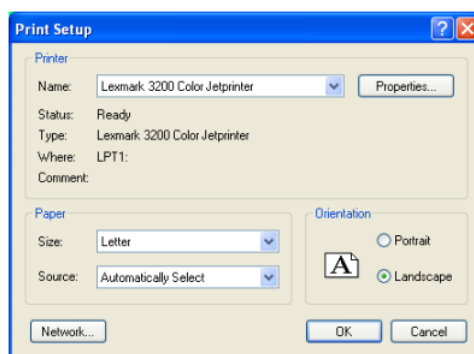

Figure 1.106 – Print Setup panel
1. On the *File* menu, click *Printer Setup*, the *Print Setup* dialog is displayed, fig. 1.106.